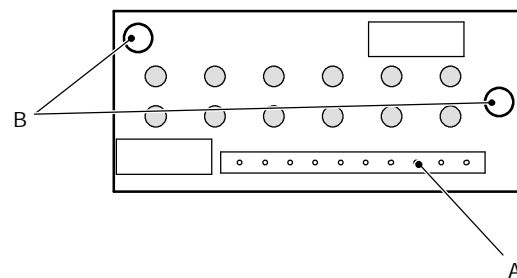

fig. 54
- 2 disconnect the connector A, remove the two screws B (fig. 54) and remove the circuit board;